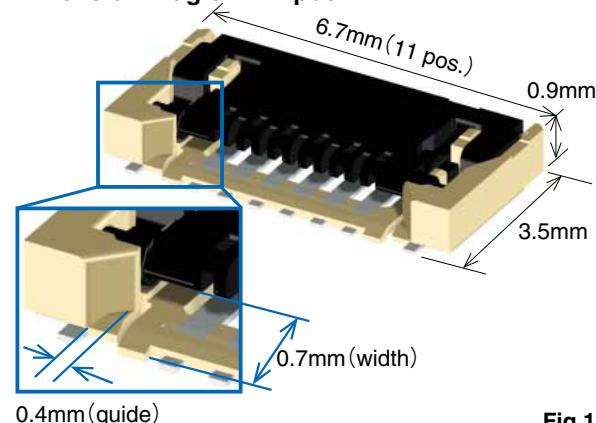

Fig.1
- Space saving design with 0.3mm pitch, 3.5mm depth, 0.9mm height (Fig.1).
- Wide guide for easy FPC insertion (Fig.1).
- 7 : Fig.1 indicates the lock lever in an open condition. FPC can be extracted by opening the lock lever more than 45°.